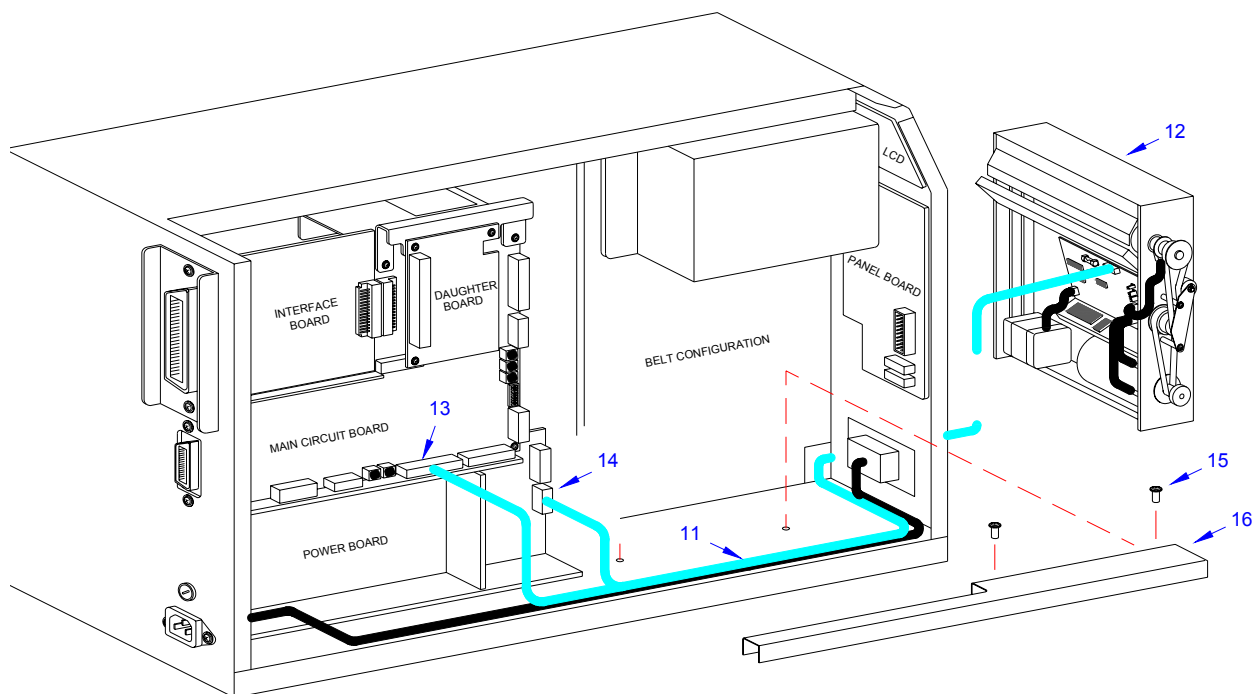

Figure 4-1c, Label Cutter Installation
- Install spacer panel (4) into the void left in front of print mechanism and secure using two screws (3).
- 11 Route the single connector end of cutter wiring harness (11, Figure 4-1c) through the printer side wall from the electric side to the mechanical side.